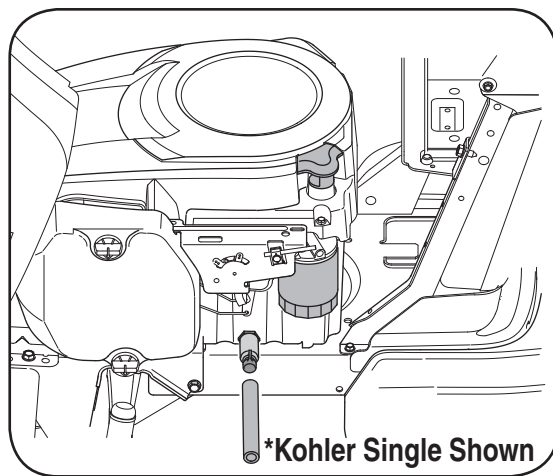

Figure 6-1
1. Pop open the protective cap on the end of the oil drain valve to expose the drain port. See Figure 6-1.